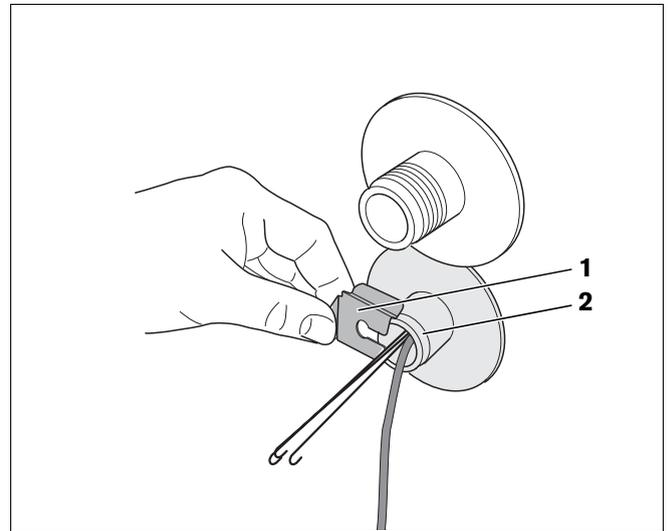

Fig. 9 Installing the sensor holder clip
- Push the sensor holder clip (Fig. 9, **Item 1**) onto the sensor well (Fig. 9, **Item 2**) from the side.